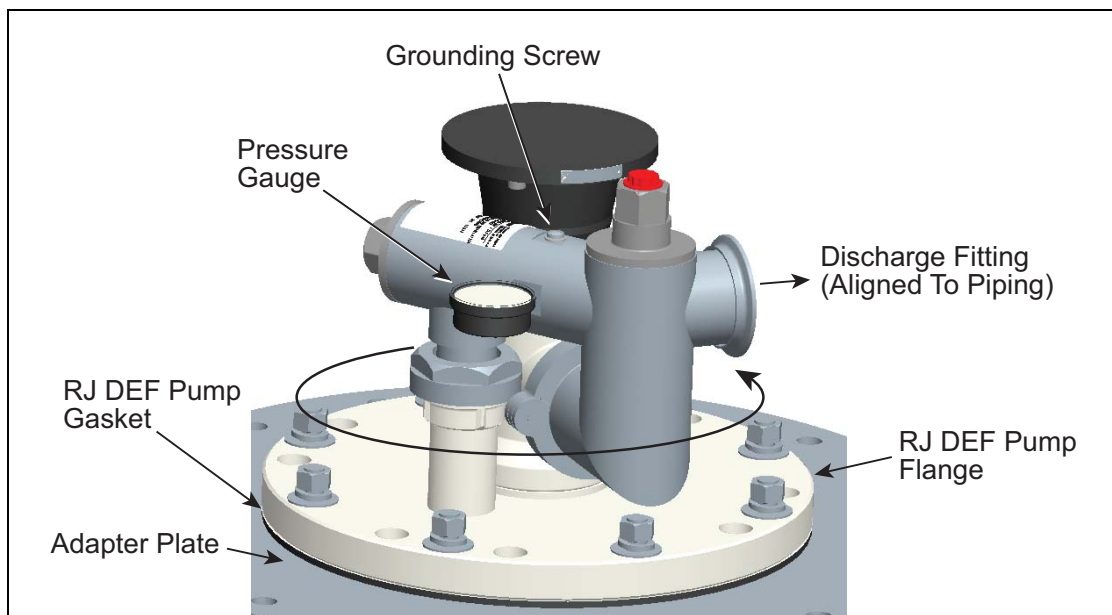

Figure B-2. Installing DEF Pump Into Tank
2. Place the RJ DEF Pump Gasket onto the Adapter Plate Mounting Studs. Carefully lift and lower the RJ DEF Pump into the access chamber and through the opening in the Adapter Plate until it rests on the RJ DEF Pump Gasket (see Figure B-2).